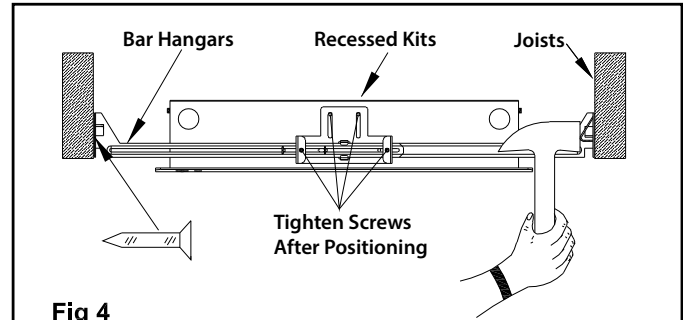

Fig 4
1. Position recessed kits between joists. Make sure bar hangers to be hung in the correct position. Position recessed kits temporarily by hammering "nail-in" tabs on bar hangers, then secure permanently with nails. Bar hangers should be level with bottom of joists. Adjust height of recessed kits vertically using adjusting slots and then tightening all screws on adjusting bracket and bar hanger bracket to secure adjusting bracket and bar hangers. (see Fig 4)